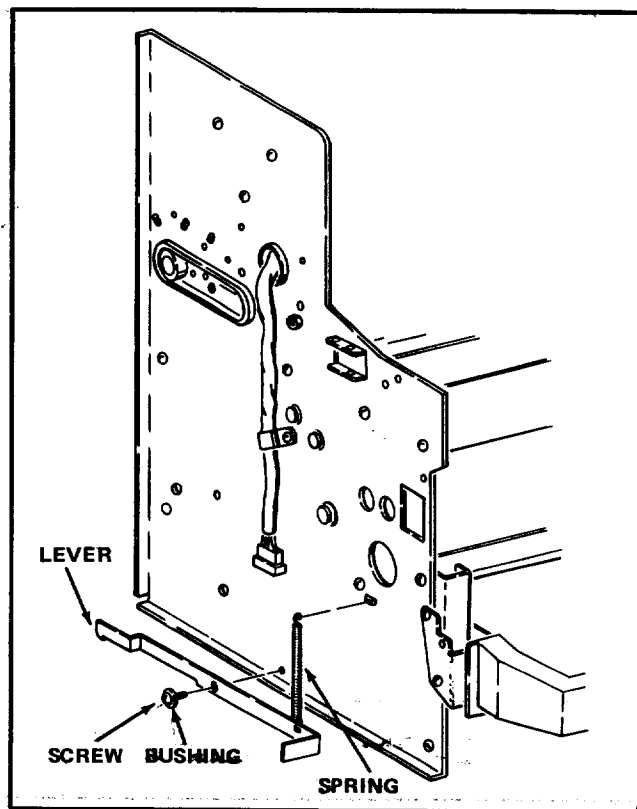

FIGURE III-4
- O. Place the Bushing, part number 114-8004 on the No.8-32 x 1/2" Pan Head Screw, part number 9900-161. See Figure III-4.